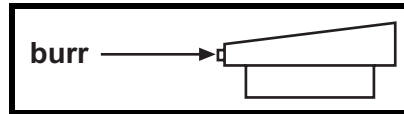
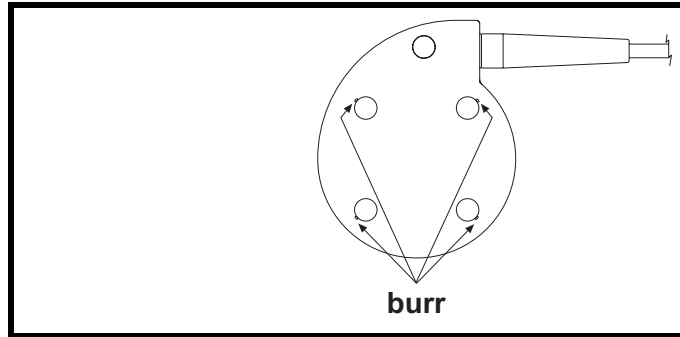

Figure 7-10. Curved Screw Cap Shape, Nautilus Transducer
Figure 7-11. Curved Screw Cap Alignment, Nautilus Transducer
4. Apply one drop of Loctite adhesive¹ to the perimeter of the hole for a curved screw cap. Insert the curved screw cap being careful to align it according to the curvature of the case top; the small burr on the screw cap side should face the outside edge of the transducer. (See Figure 7-10 and Figure 7-11.) Press the screw cap firmly into place. Repeat for the remaining three curved screw caps.